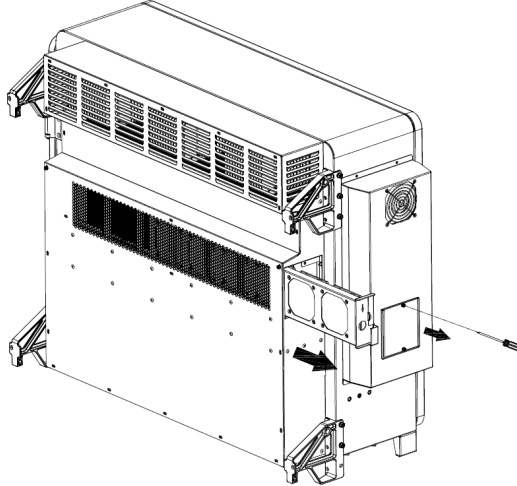

Figure 7-1 Remove the fan tray and fan
1. Use a No.2 Phillips head screwdriver to remove the screws fixing the fan tray as shown in Figure 7-1.